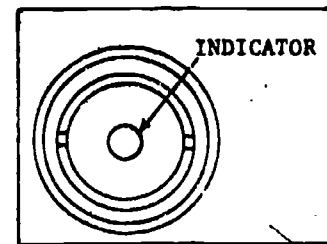

Fig 4-25. Sight glass.
(4) Outside air thermostat. The function of the outside air thermostat is to prevent compressor start-up when the outside air temperature (ambient temperature) drops below a specified point. This prevents operation at a time when low condensing and suction pressures will hamper system operation. On the two smallest size units, the outside air thermostat is set to cut out at 50°F ambient, while on all others it is set to cut at 0°F ambient.
(5) Sight glass (fig 4-25). The liquid line sight glass, located on the back panel, indicates if there is moisture in the refrigerant or if there is a shortage of refrigerant. Moisture is shown by the indicator turning from green to yellow. A shortage of refrigerant is indicated by bubbles appearing continuously in the sight glass.